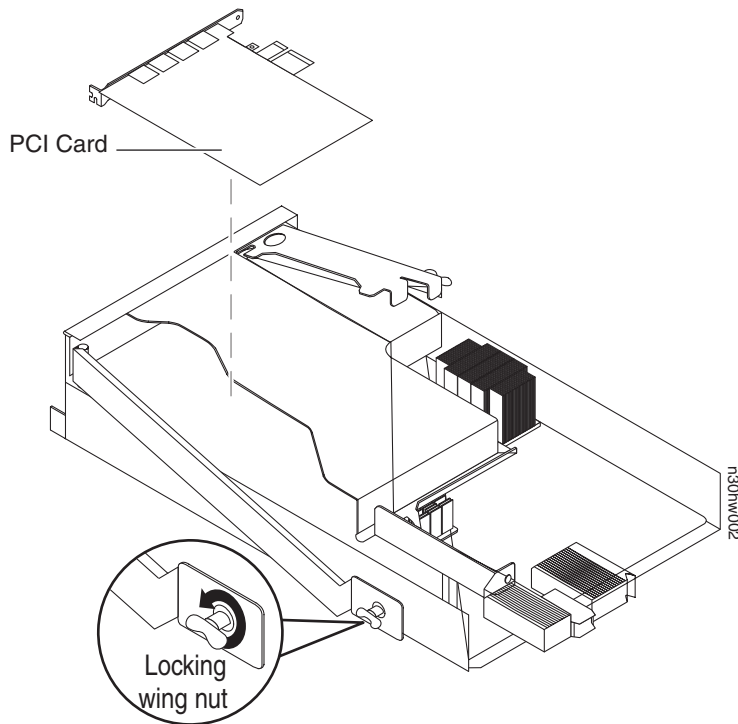

Figure 83. Removing a PCI card
4. Remove the target PCI card by completing the following substeps, using Figure 83 on page 110 for reference: